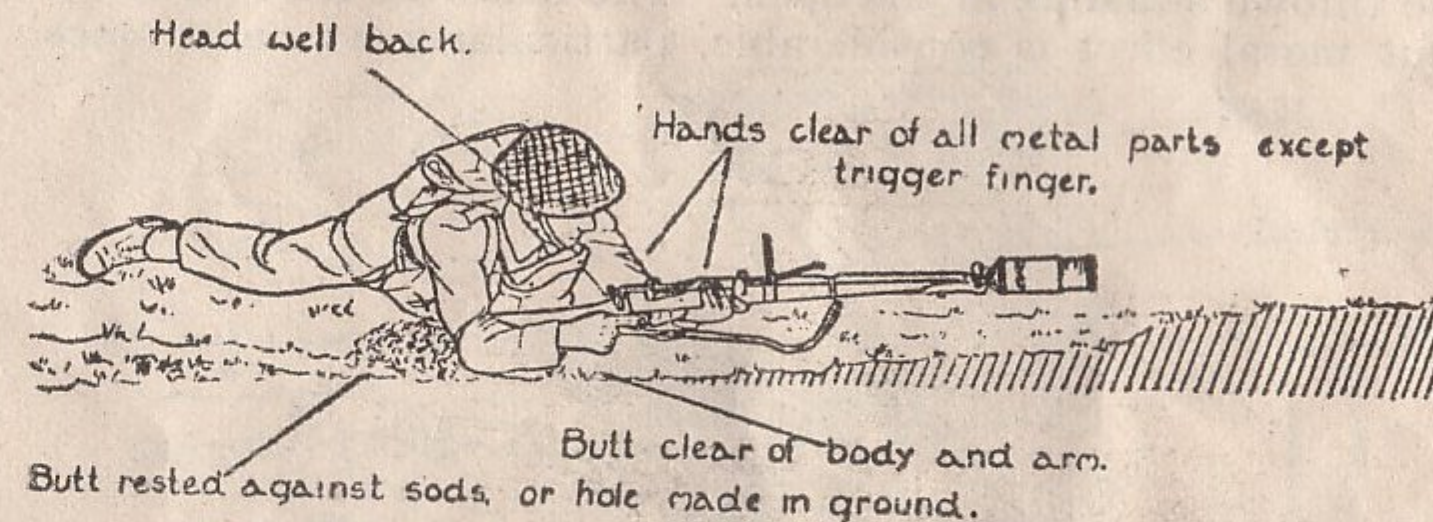

FIG. 14
- ii. *Aiming and firing*.—Adopt a position where the rifle can be held at a low angle (see Fig. 14).